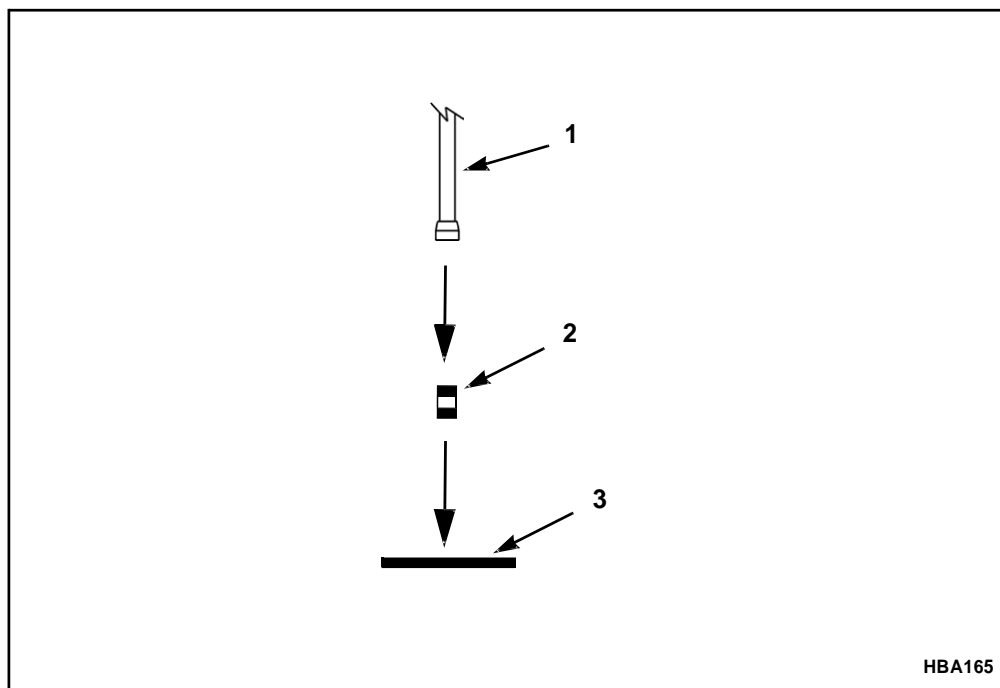

Figure 19. Attaching the Pole
1. Remove the frangible coupling from the shipping pallet and screw it into the baseplate, see Figure 19.